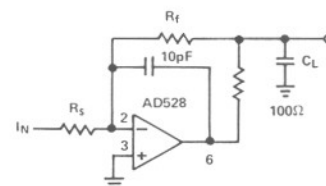

Figure 4. Isolating a Capacitive Load Up To 500pF
**Capacitive Loading.** The AD528 can drive 100pF capacitive loads; for larger capacitive loads, an isolation resistor, as shown in Figure 4 is recommended.